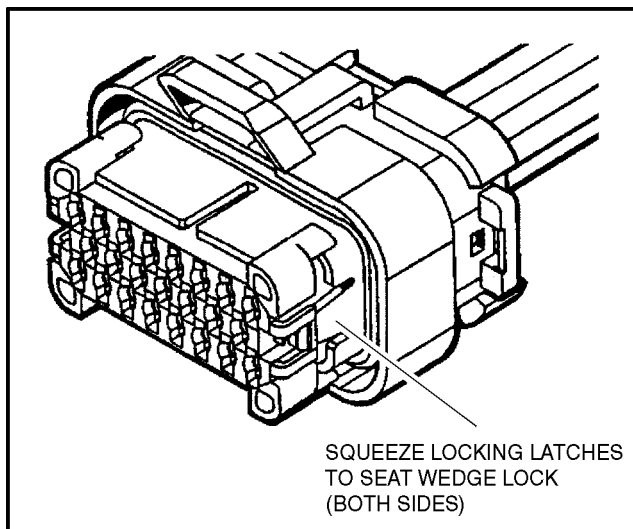

Figure 7-8. Connector Assembly Figure 3
3. After all required contacts have been inserted, the wedge lock must be closed to its locked position. Release the locking latches by squeezing them inward (See Figure 7-8.).